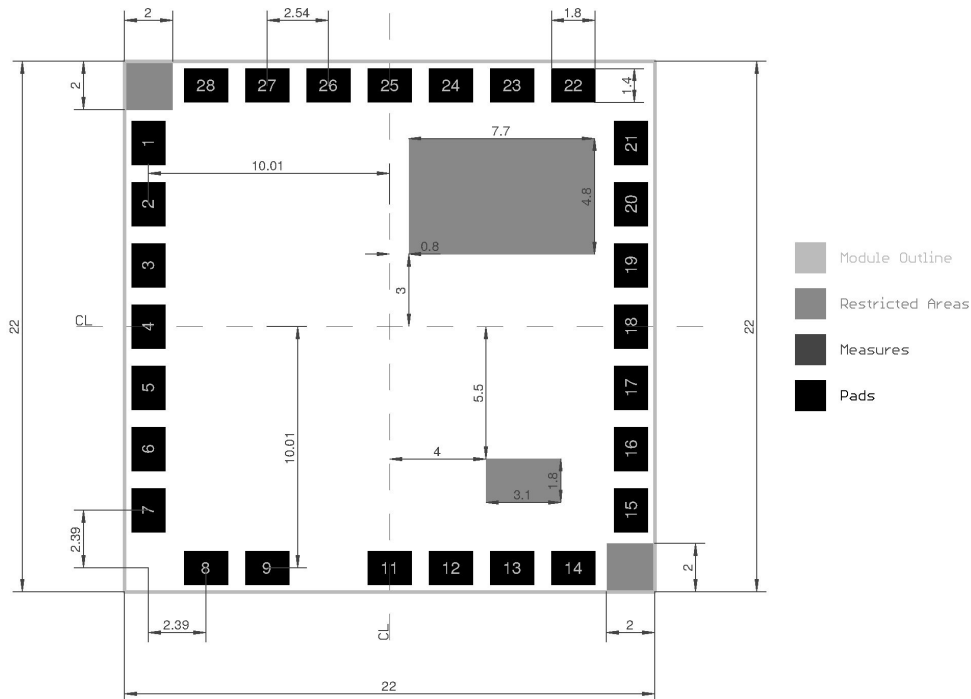

Figure 3: PLC Stamp micro 2 Footprint
4. The drawing in Figure 3 shows the top view on the footprint (as if you look through the module).